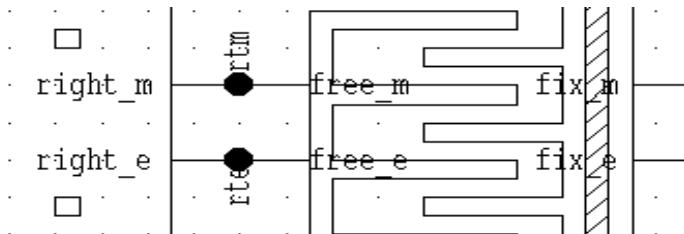

Figure 6: rtm and rte nodes
- Edit the node label orientations to look somewhat like the layout in Figure 6.